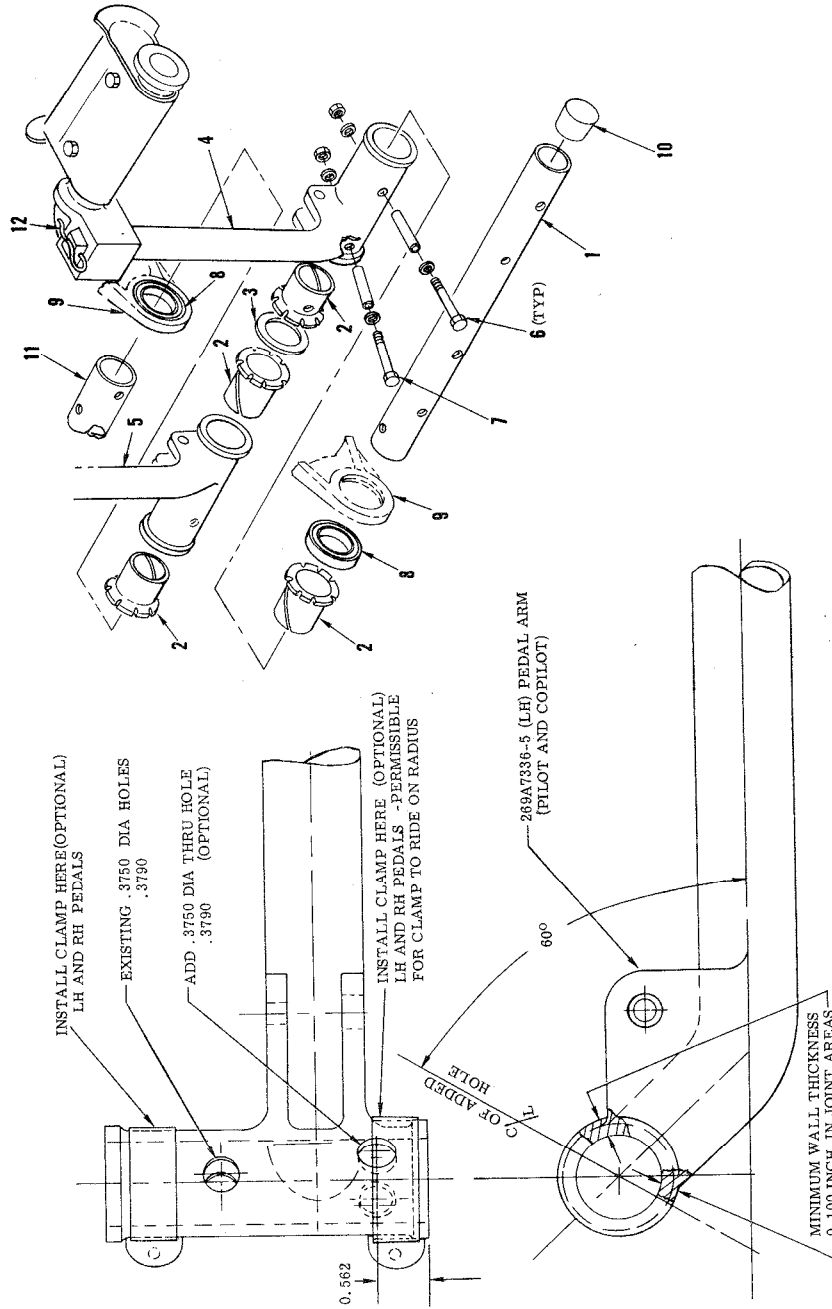

FIGURE 1. (LH) RUDDER PEDAL ARM REVORK
- d. Remove cotter pins (12, Figure 1) to remove foot pedals from both LH pedal arms(4).
- e. Remove bushing assemblies (6) from both LH rudder pedal arms.
- f. Remove bushing assemblies (6) from torque tube (11).
- g. Remove tube (1) from rudder arms (4 and 5) pilot and co-pilot sides.
- h. Using dial indicator, inspect pedal arms for minimum wall thickness of 0.100 inch. in the joint area, as shown in Figure 1.
- i. Place pedal arms on flat surface; mark hole centers, as shown in Figure 1.
- j. Reassemble tubes (1), bearings (2), washer (3) and co-pilot's LH and RH pedal arms (4 and 5); secure tube (1) to pedal arms with two existing bushing assemblies (6). Repeat above for pilot's rudder pedals.